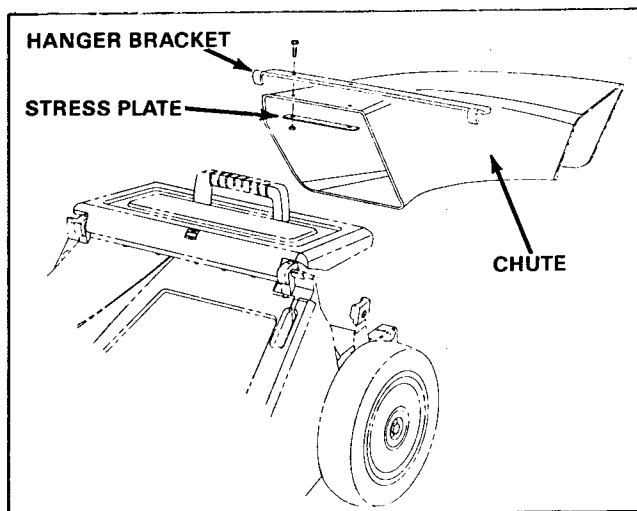

Figure 133
1. Place the chute hanger bracket and stress plate into position as shown in Figure 133. Secure with two washer head capscrews and nylon locknuts.